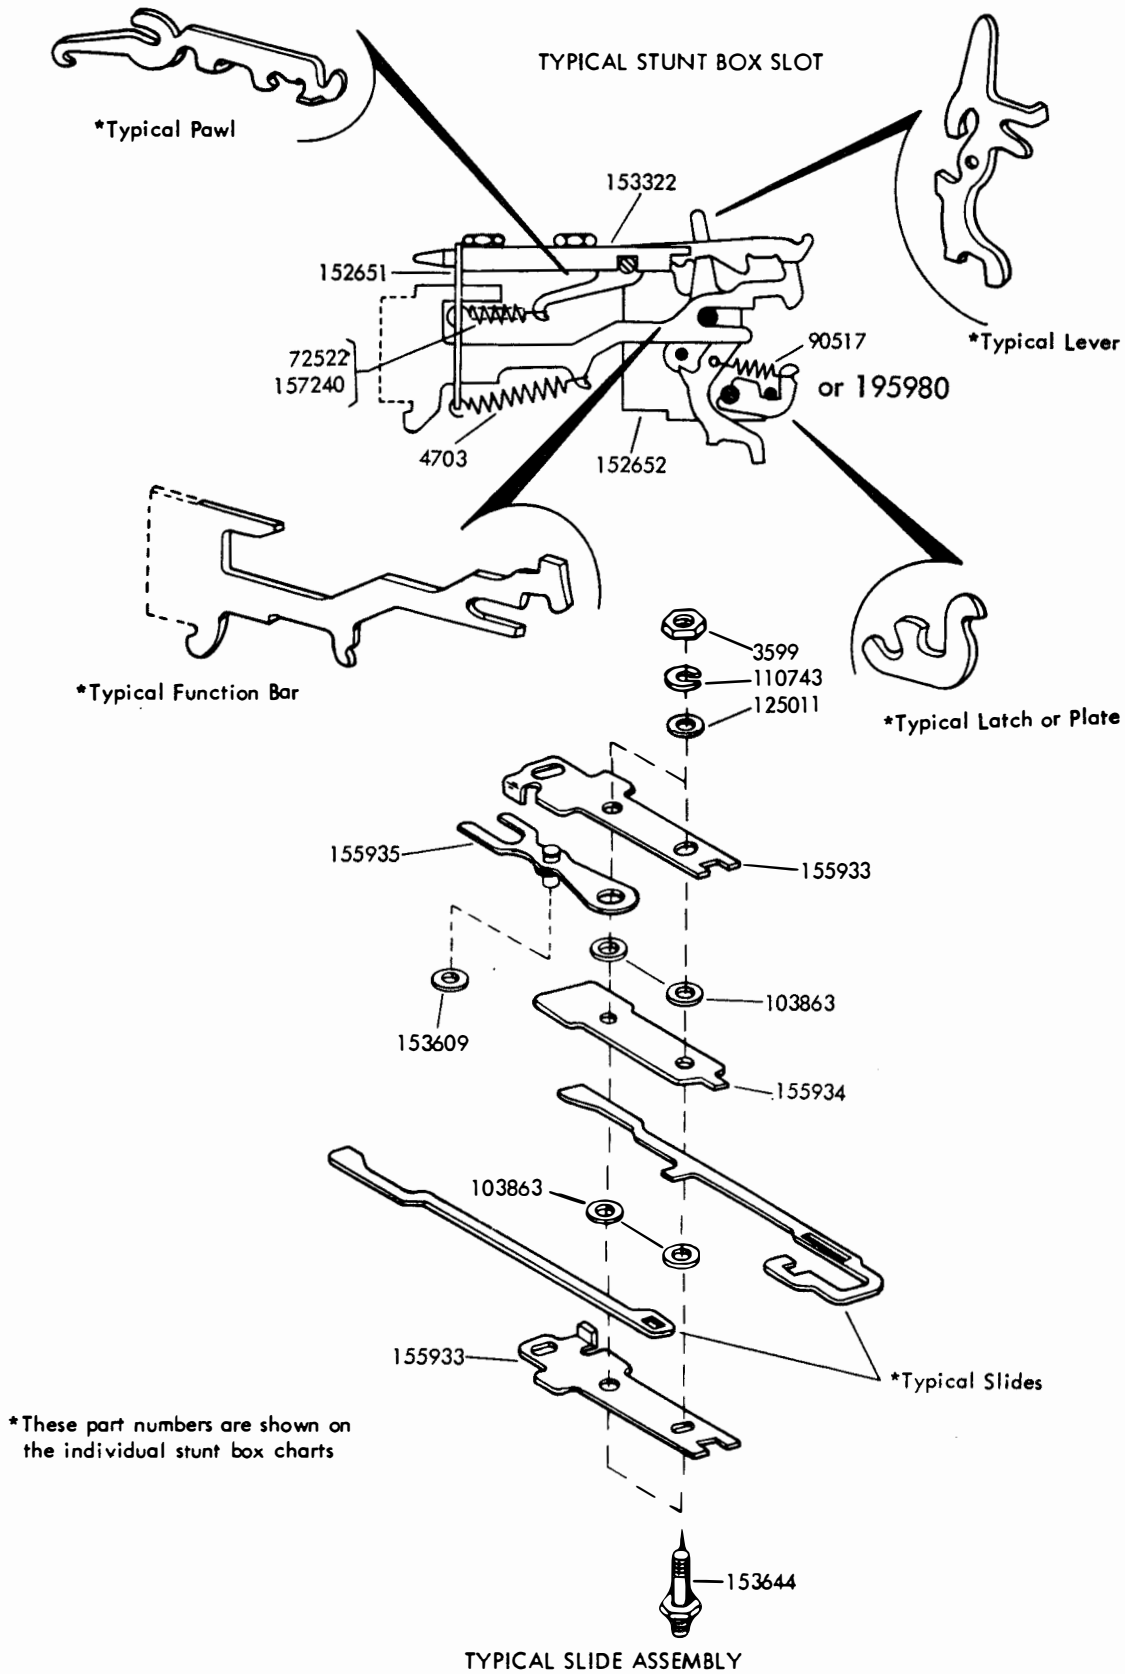

Figure 1 - Typical Assembly of Shift Slide and Parts in Stunt Box Slots.
- 2.03 Figure 1 shows typical assembly of shift slide and parts in stunt box slot.
- 2.06 Appropriate springs and wicks will be used in the assembly of the stunt box as shown in Figure 1.
1. See Fig. 1 for typical assembly of shift slides and parts in stunt box slots.